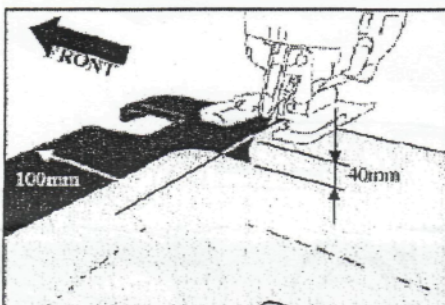

Fig. 2A: Initial cut of ute liner front section (RHS shown)
- 2A.** Measuring from front edge of ute liner rail lip, mark a line 100 mm back and 40 mm down the inside face of the liner (see Fig. 2A).